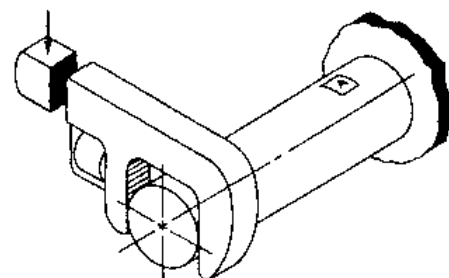

Fig. 4
4. Fig. 4 shows a small pressurized cylinder, attached at the one end and loaded with a pipe wrench at the other. The internal pressure causes a tangential stress of 200 MPa and an axial stress of 100 MPa that act on an element at point A. The pipe wrench superimposes a bending stress of 50 MPa and a torsional stress of 100 MPa.